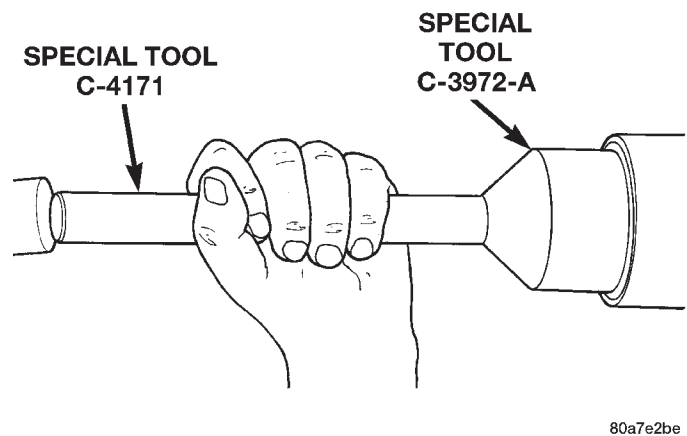

Fig. 43 Pinion Seal Installation
(4) Install front pinion bearing, and oil slinger, if equipped.
(5) Apply a light coating of gear lubricant on the lip of pinion seal. Install seal with Installer C-3972-A and Handle C-4171 (Fig. 43).